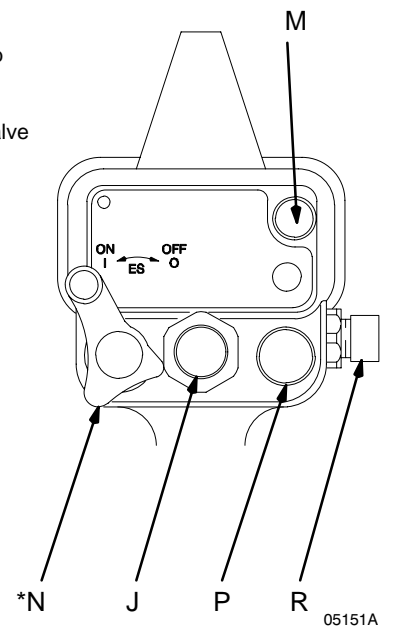

Fig. 10
4. If necessary, further adjust the fluid flow rate with the fluid adjustment knob (J). See Fig. 10.
5. Fully open the fan air valve (P).
KEY-Fig. 10